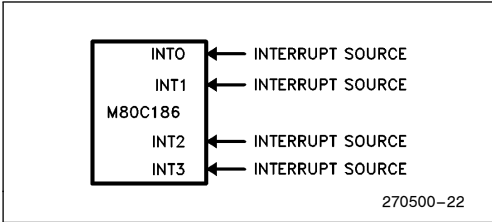

Figure 22. Fully Nested (Direct) Mode Interrupt Controller Connections
When in the fully nested mode four pins are used as direct interrupt requests as in Figure 22. The vectors for these four inputs are generated internally. An in-service bit is provided for every interrupt source. If a lower-priority device requests an interrupt while the in service bit (IS) is set, no interrupt will be generated by the interrupt controller. In addition, if another interrupt request occurs from the same interrupt source while the in-service bit is set, no interrupt will be generated by the interrupt controller. This allows interrupt service routines to operate with interrupts enabled without being themselves interrupted by lower-priority interrupts. Since interrupts are enabled, higher-priority interrupts will be serviced.